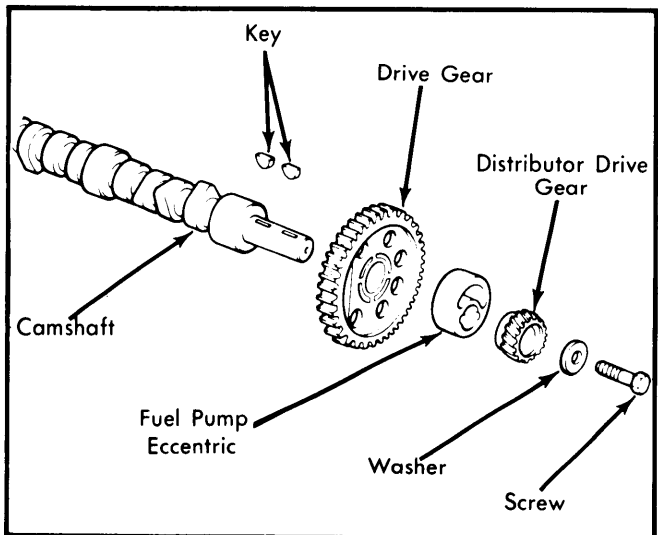

Fig. 7 Exploded View of Camshaft Assembly
**Installation** — 1) Assemble timing chain, crankshaft sprocket and camshaft sprocket with timing marks aligned. Install fuel pump eccentric and distributor drive gear. See Fig. 7.